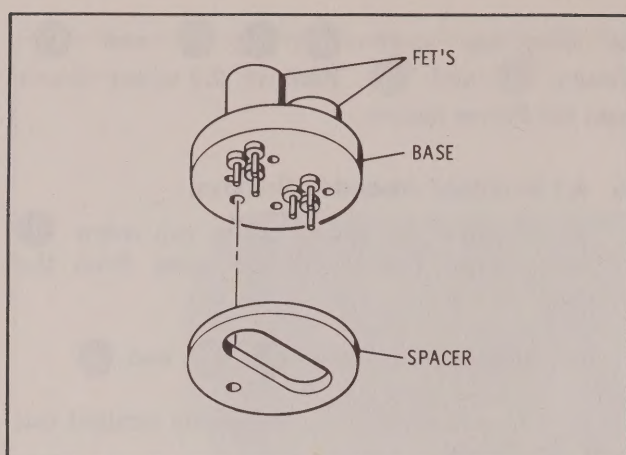

Figure 11. FET Assembly and Spacer
f. Gently lift the FET Assembly and spacer from the circuit board. Refer to Figure 11.
b. Insert the lead clamp compression spring and cap screw to hold the spacer and assembly in place against the printed circuit board. Refer to Figure 11.